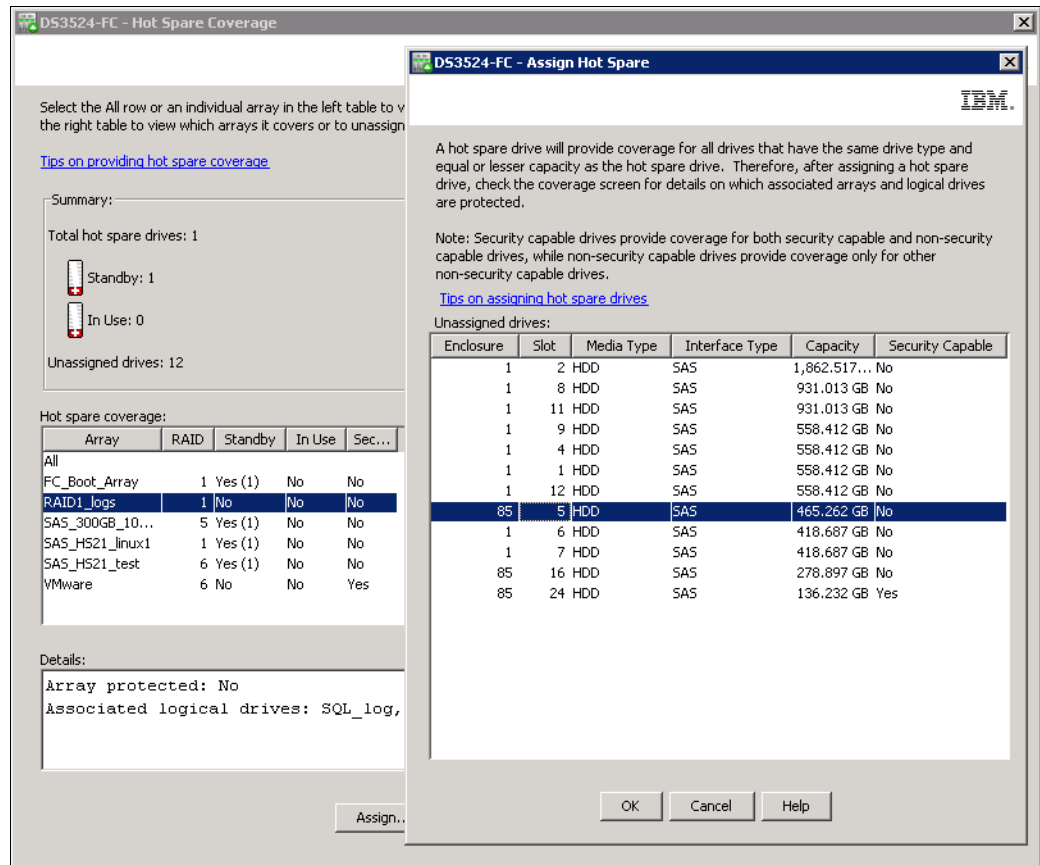

Figure 10-10 Assigning hot spare
- ▶ The Hot spare coverage pane shows all arrays and whether they are protected by hot spares. If an array is selected in this left pane, in the right **Hot spare drives** pane you see the hot spare assigned. If you select an array that has no hot spare defined, you can click **Assign** in the bottom part of the window, and a new window like in Figure 10-10 on page 266 opens.